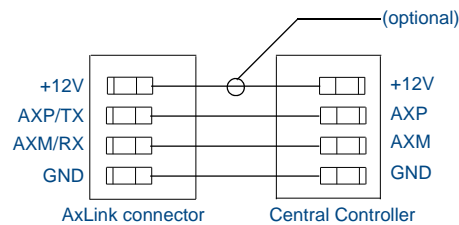

FIG. 27 AxLink wiring diagram
3. Connect the four-pin AxLink male connector into the four-pin female AxLink connector on the controller circuit card. FIG. 27 shows how to wire the AxLink connector to a Central Controller system.